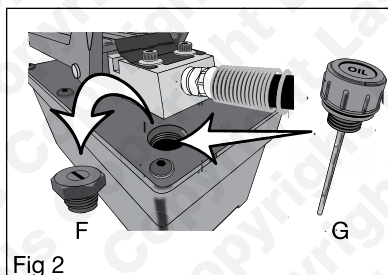

Fig 2
Refer to Figure 2: Remove the plastic oil reservoir transit cap (F); this is a non-vented cap that seals the oil reservoir during transport. Replace the transit cap with the oil reservoir vented cap / dipstick (G) which must be in place when using the hydraulic pump.